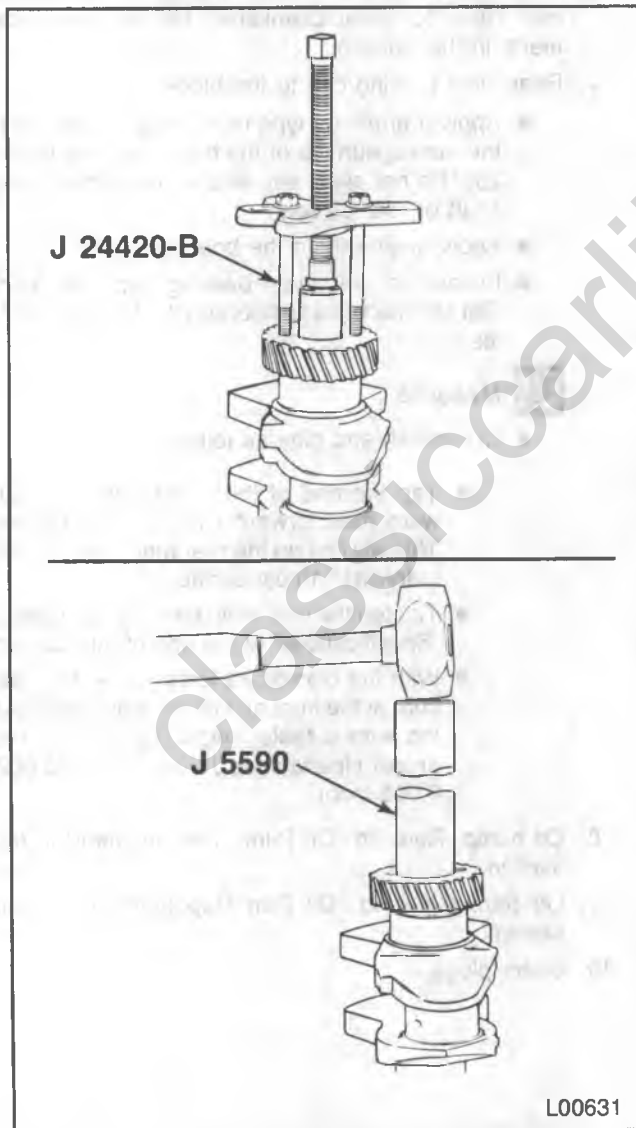

Figure 38 — Replacing The Crankshaft Gear
↔ Remove or Disconnect (Figure 38)
2. Crankshaft gear using J 24220-A (figure 38).
1. Crankshaft gear using J 5590 (figure 38). Make sure the timing mark faces out.